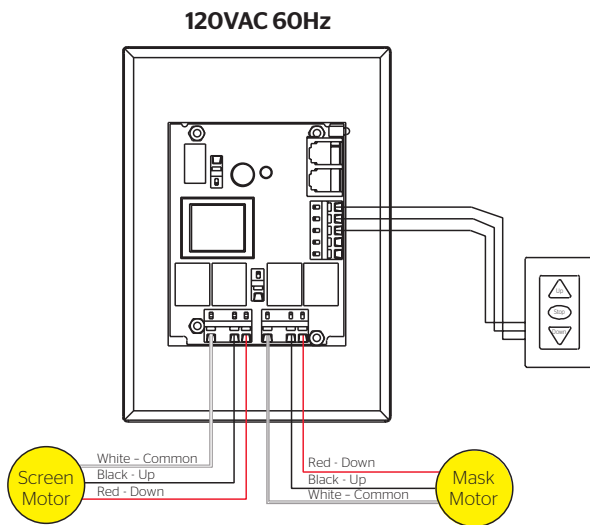

Figure 6
1. Connect the motor wires in the screen junction box to the DMC terminals as shown in Figures 6 or 7.